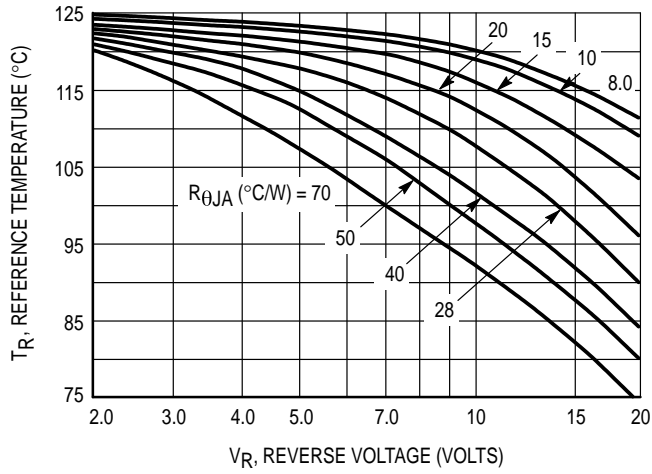

Figure 1. Maximum Reference Temperature
Figures 1, 2, and 3 permit easier use of equation (1) by taking reverse power dissipation and thermal runaway into consideration. The figures solve for a reference temperature as determined by equation (2).
Inspection of equations (2) and (3) reveals that T_R is the ambient temperature at which thermal runaway occurs or where $T_J = 125^\circ\text{C}$, when forward power is zero. The transition from one boundary condition to the other is evident on the curves of Figures 1, 2, and 3 as a difference in the rate of change of the slope in the vicinity of 115°C.
The data of Figures 1, 2, and 3 is based upon dc conditions. For use in common rectifier circuits, Table 1 indicates suggested factors for an equivalent dc voltage to use for conservative design, that is: